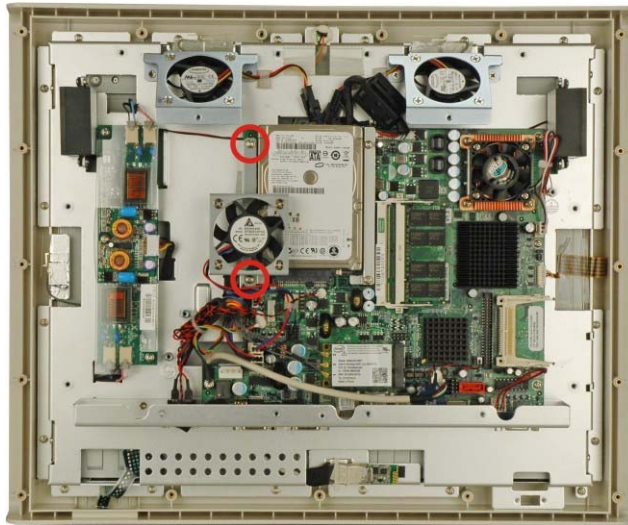

Figure 5-2: System Fan Retention Screws
Step 4: Remove the system fan on the top of the HDD by removing the two retention screws (Figure 5-2).